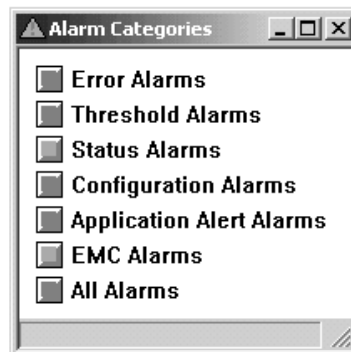

Figure 7-18 Alarm Categories Window
1. Click **EMC Alarms** in the Alarm Categories window (Figure 7-18).